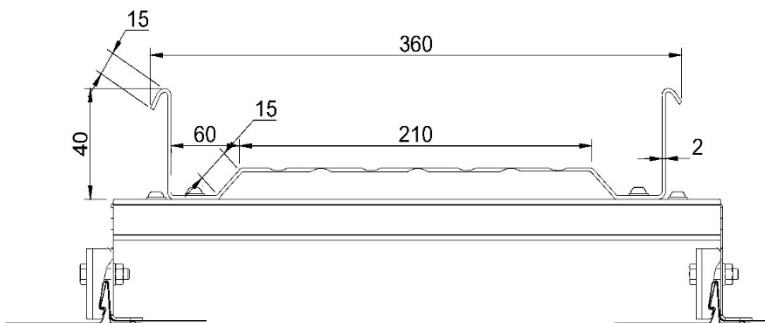

Figure 2.
- Install the ZK- and ZL-bracket plates and place them at one side of the roof seam such that they are in a vertical position (Figure 2).
- Place the RP-bracket on the other side of the seam (Figure 2).
- Each ZK- and ZL-bracket plate must be fastened together with an RP-bracket (Figure 2).
- Make sure that the RP-bracket parts are in the position shown in Figure 2.
- Screw together using an M8x35 mm bolt screw, M8 nut, and washer (Figure 2).
- Tighten the screws such that the RP-bracket plate holds firmly on the roof material (Figure 2).
- To the ZK- and ZL-bracket plates, attach the C-bracket using two M8x20 screws with an M8 nut and M8 washer (Figure 2).
- Fasten the roof footbridge to the C-bracket using two M10x20 screws and an M10 nut and M10 washer (Figure 2).